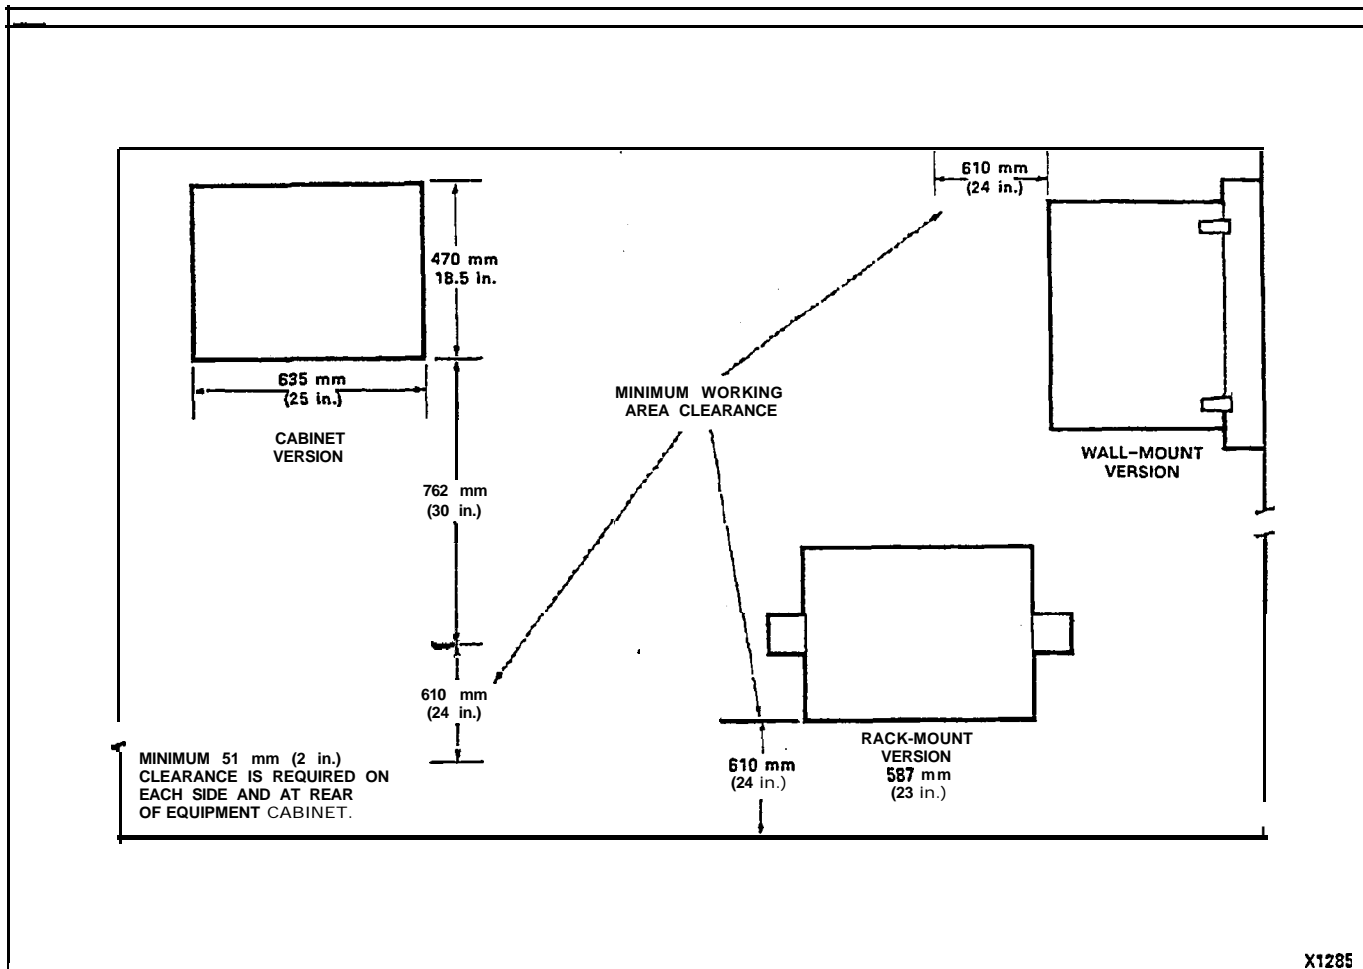

Figure 9-1 SX-100 Minimum Equipment Cabinet Floor Space Requirements
9.02 The minimum floor space for installation and subsequent maintenance of the SX-100 and SX-200 PABXs is shown in Figures 9-1 and 9-2 respectively.